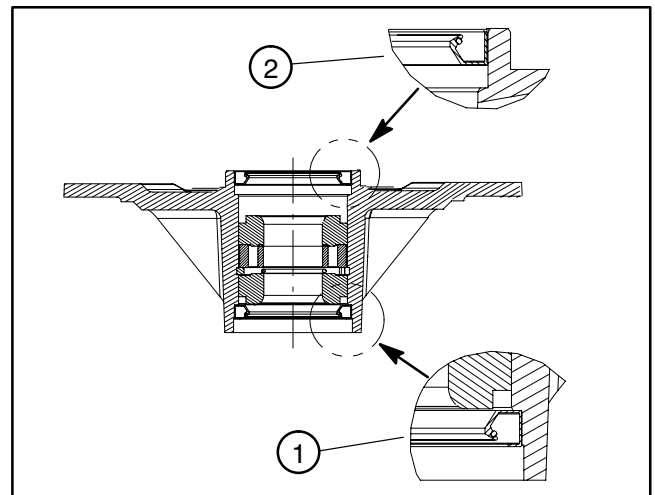

Figure 33
5. Install lower bearing and seal into bottom of spindle housing. **Note:** The bottom seal must have the lip facing out (down) (Fig. 33).
6. Slide spacer ring and inside spacer into spindle housing, then install upper bearing and seal into top of housing. **Note:** The upper seal must have the lip facing out (up) (Fig. 33).